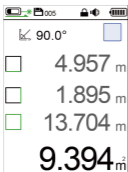

Figure 4 First measured area
Step 1: Measure the first area (refer to area measurement), as shown in Figure 4;